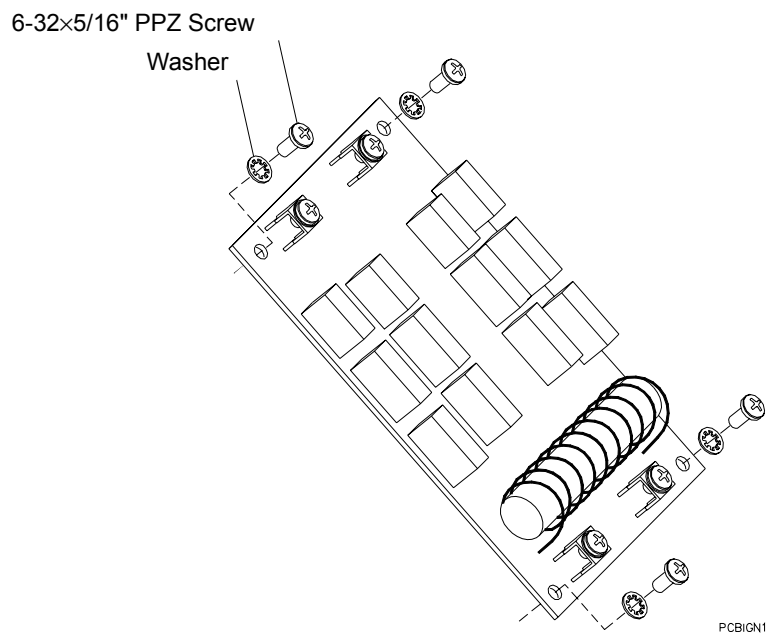

Figure 2-13: Ignitor PCB Removal
- Step 4. At Ignitor PCB, remove four 6-32×5/16" screws and washers which secure PCB to yoke leg and remove Ignitor PCB. **Figure 2-13.**